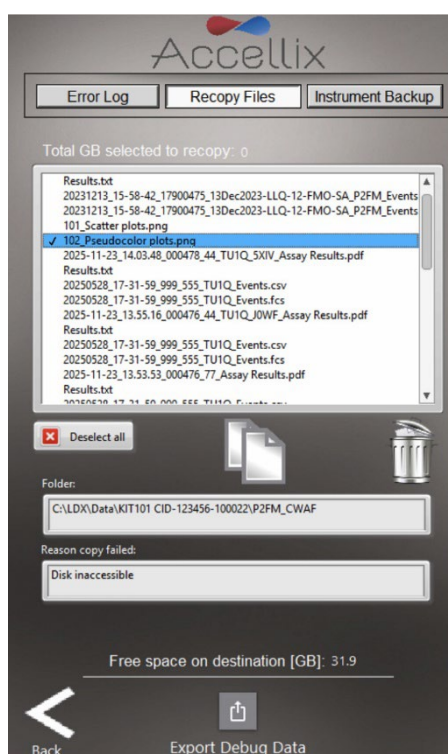

Figure 23: Recopy Files
2. The **Recopy Files** tab displays all of the data files that have not previously been copied (Figure 23).